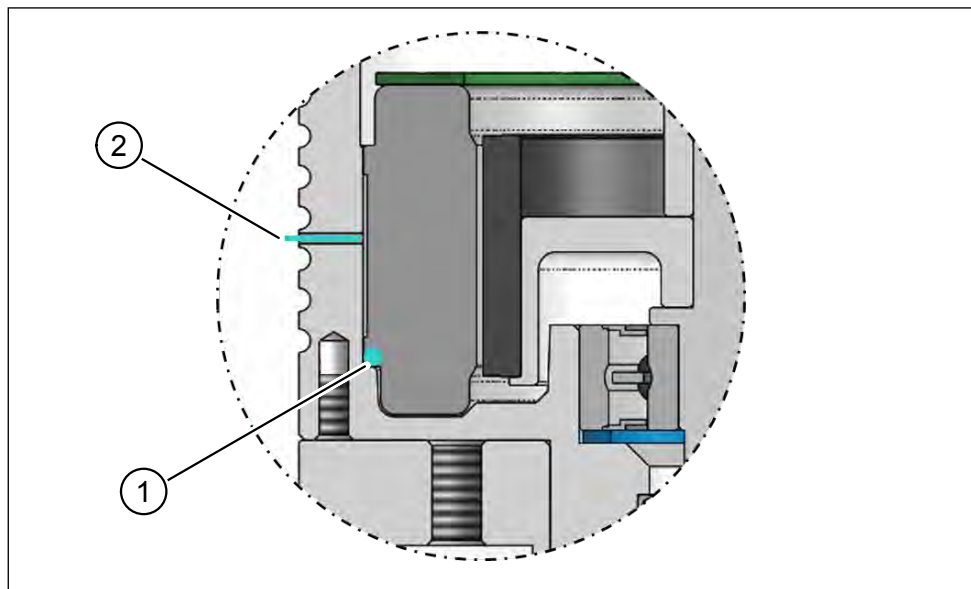

Fig. 12: Bonding the stator in position
- ▶ Apply a bead of adhesive (e.g. LOCTITE 9497) all around the edge (item 1 in Fig. 12) inside the housing.
- ▶ Inject adhesive into the hole (item 2 in Fig. 12) in the housing until the adhesive emerges from the hole on the opposite side. Twist the needle a little from side to side as you inject to evenly distribute the adhesive.